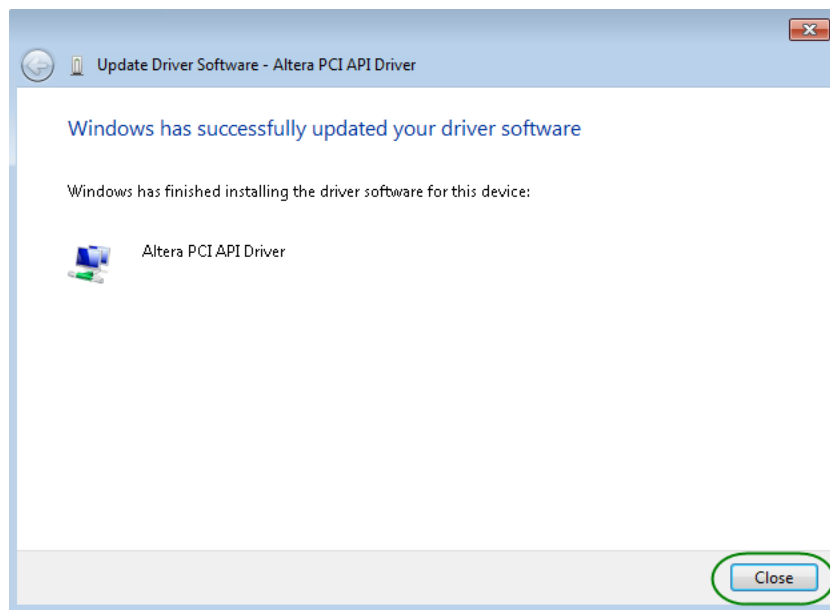

Figure 7-7 Click Close when the installation of Altera PCI API Driver is complete
- When the driver is installed successfully, the successfully dialog will appear, as shown in **Figure 7-7**. Click the **Close** button.